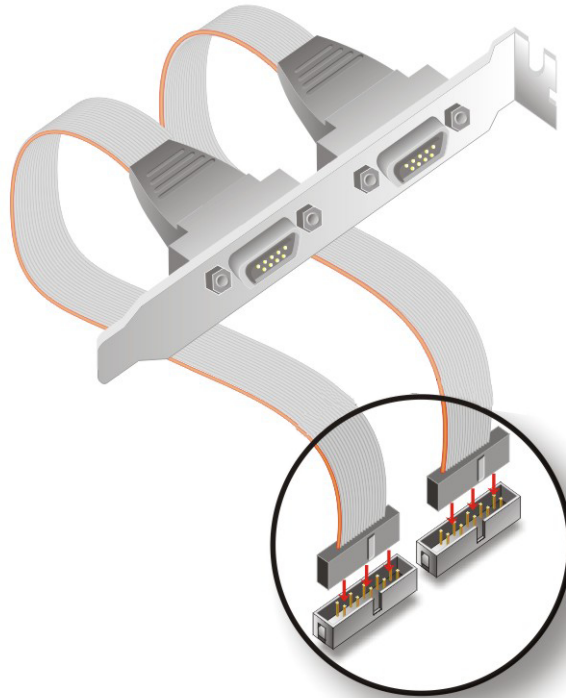

Figure 5-10: Dual RS-232 Cable Installation
Step 2: **Insert the cable connectors.** Insert one connector into each serial port box headers. See **Figure 5-10**. A key on the front of the cable connectors ensures the connector can only be installed in one direction.